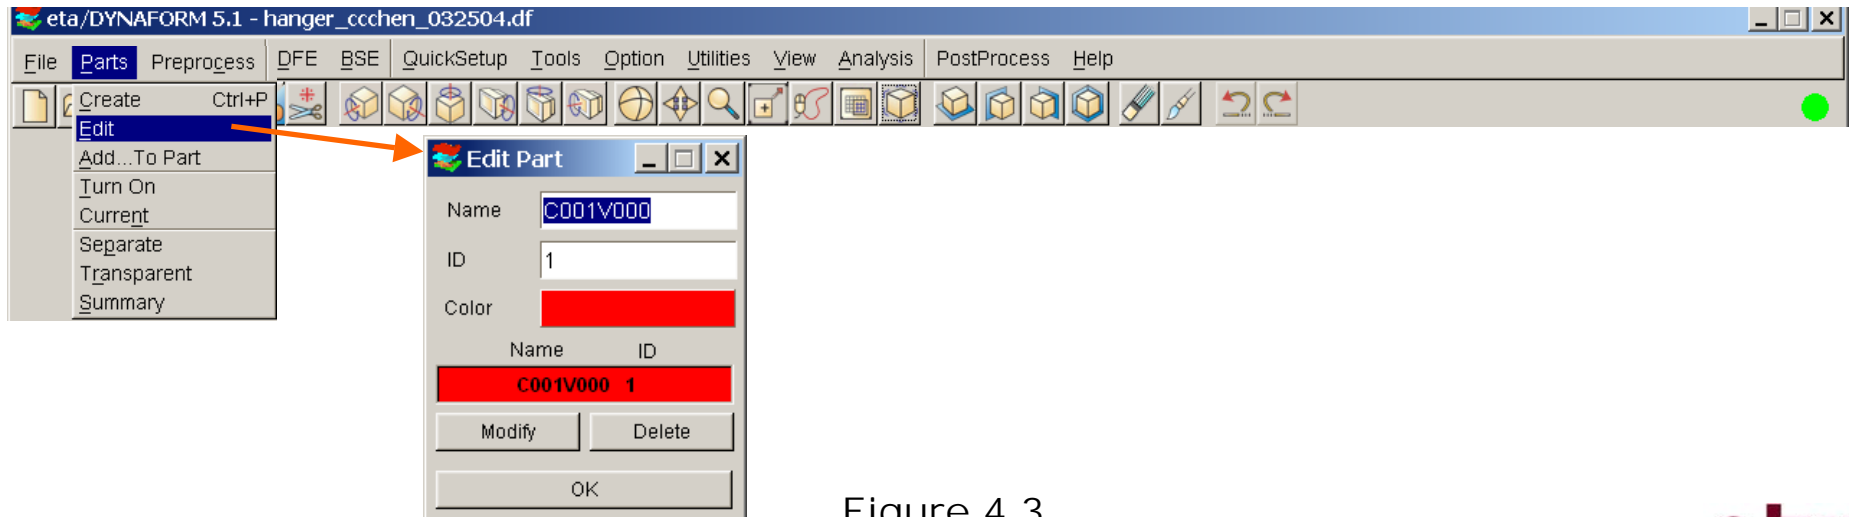

Figure 4.3
- Click on **Parts** (See Figure 4.3)
- Double click on the input box for Name to highlight Part C001V000 (See Figure 4.3)